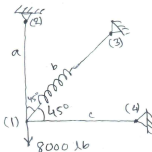

Figure 3
5. a) Consider the following 2D assembly of truss and spring elements in Figure 3. For Elements a and c: